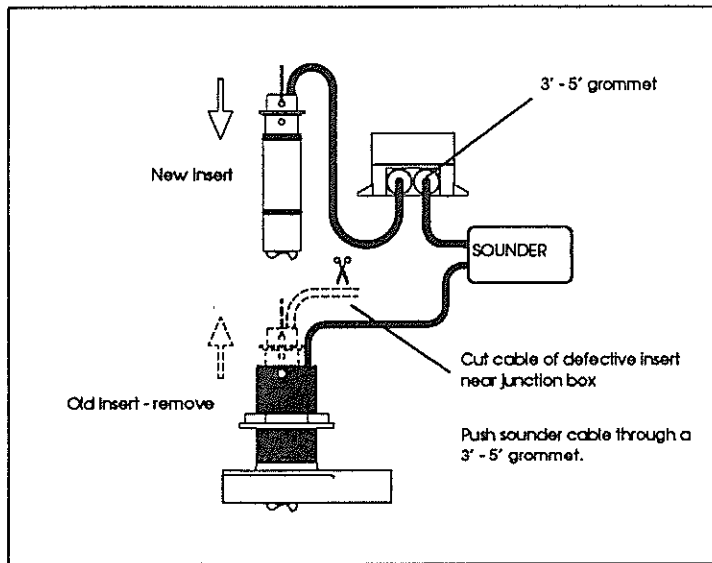

FIGURE 6. SPlicing CABLE IN TWO CABLE SYSTEM TO JOIN PRE-STRIPPED INSERT WIRES
1. Cut through the cable leading to the defective speed/temperature insert near the location of your junction box at a point that allows the cable to be spliced where the box is to be mounted. See Figure 6.